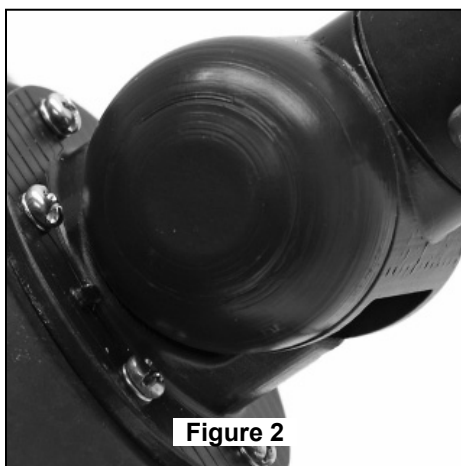

Figure 2
5. Assemble the Housing Switch Cup onto the assembled Adapter Plate with three screws. (Figure 2)
4. Secure the knee covers on the knee bolts on both side of each knee joint. (Figure 2)